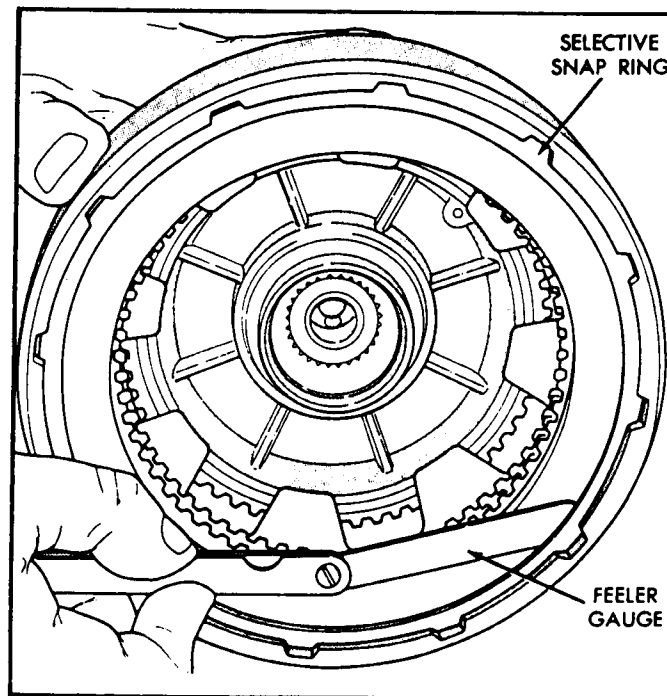

Figure 68
10. Install top pressure plate and selective snap ring (See Figure 68).
11. Check clutch clearance with a feeler gauge as shown in Figure 68. Clearance should be .030"-.050".